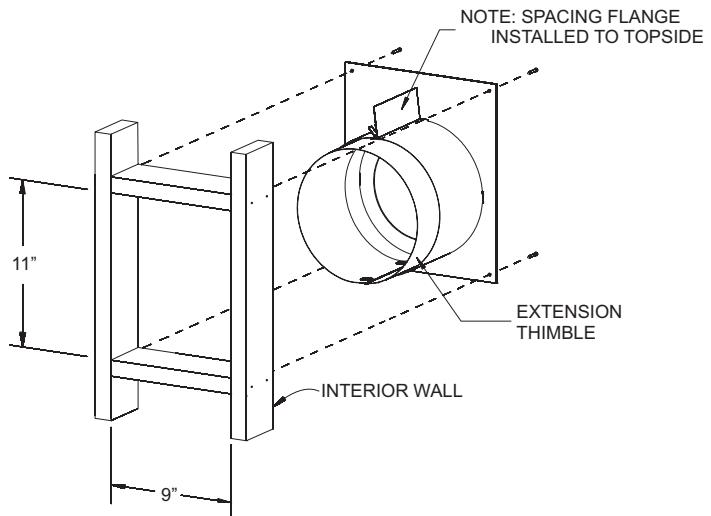

Figure 54
2. Cut hole in wall for wall thimble/firestop assembly **Figure 54** into your combustible wall. Note: On brick or block exterior wall a 7" (178mm) diameter hole needs to be cut.
Measure the total wall thickness to determine whether or not the extension thimble is to be used. If the combustible wall depth is over 5 3/8" (137mm), then the extension thimble should be used **Figure 54.**
3. Install the wall thimble assembly through the framed opening so the firestop plate is on the interior wall **Figure 54.** Telescope section should extend all the way through the exterior wall. Attach with (4) 10 x 1" screws.